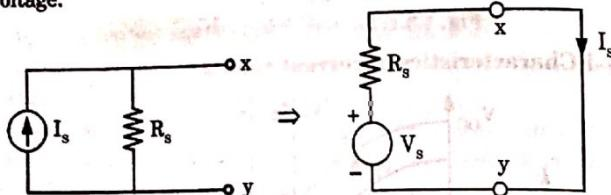

Fig. 1.4.2.
- Let us consider a practical current source I_s with a source or internal resistance R_s as shown in Fig. 1.4.2.